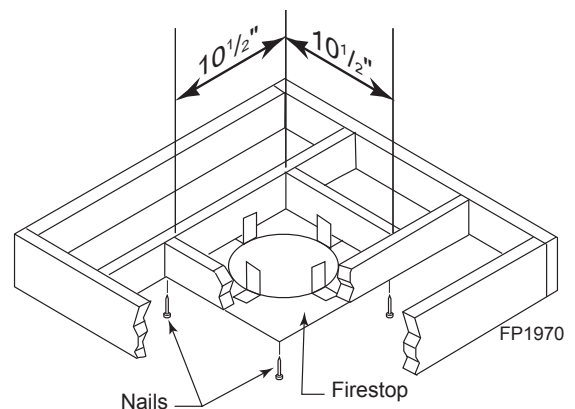

Figure 34 -
1. Cut a 10½" (267 mm) square hole in the ceiling using the locating hole as a center point. The opening should be framed to 10½" x 10½" (267 x 267 mm) inside dimensions as shown in *Figure 34* using framing lumber the same size as the ceiling joist. If the area above the ceiling is an insulated ceiling or a room, nail firestop from the top side. This prevents loose insulation from falling into the required clearance space. *Figure 34*. Otherwise, install firestop below the framed hole. The firestop should be installed with no less than three (3) nails per side. *Figure 34*.